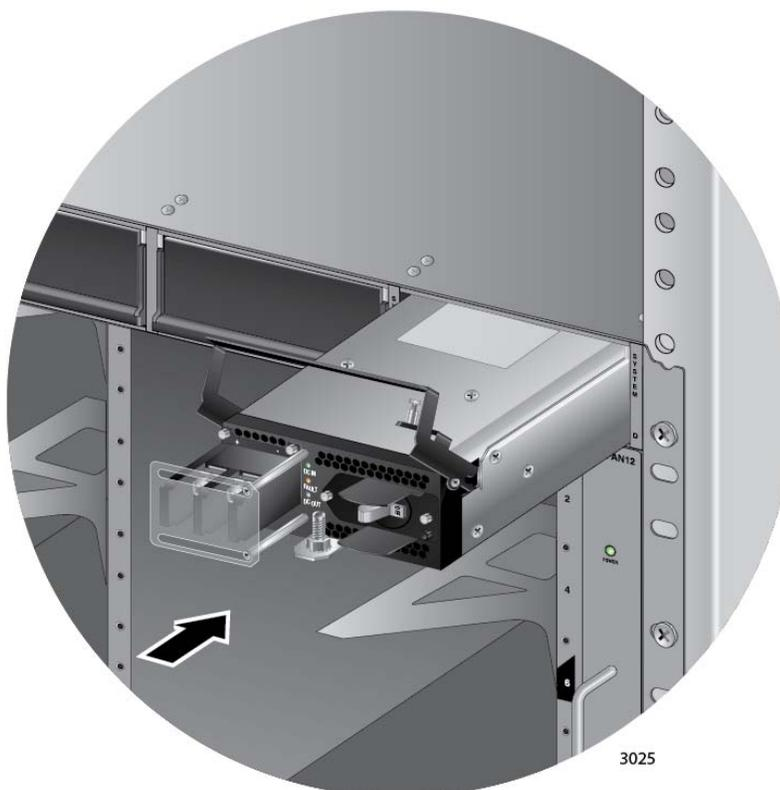

Figure 62. Inserting the AT-SBxPWRSYS1 DC System Power Supply
7. Align and insert the AT-SBxPWRSYS1 Module into slot C or D. Figure 62 shows the power supply installed in slot D.